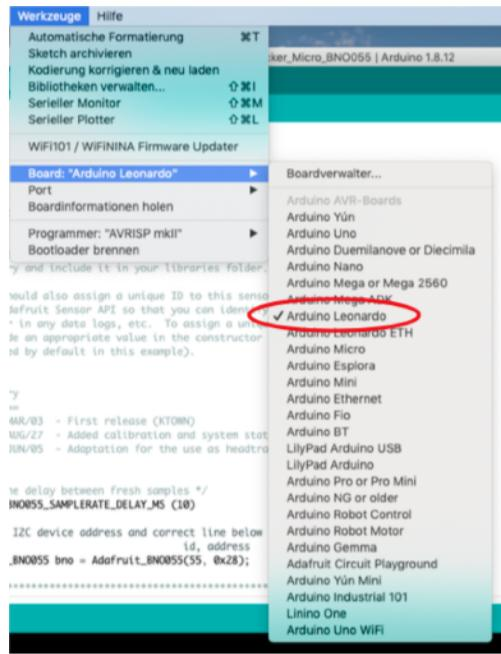

Figure 19: Board selection “(Arduino Leonardo)”
Step 7.3: To program the Arduino Pro Micro, choose the Board “Arduino Leonardo” (Figure 19) in the tools section.